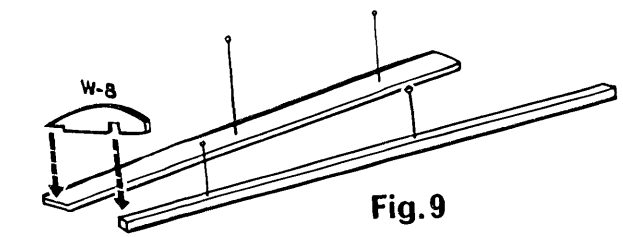

Fig. 9
STEP 10. Cut main spar to length and pin to plan (FIG. D) as indicated. Glue W 8 to it and trailing edge as in Fig. 9.